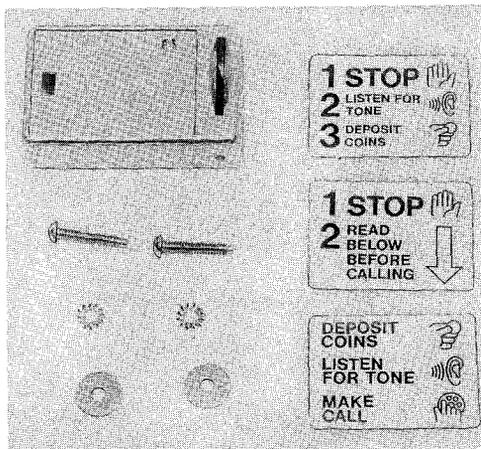

Fig. 55—D-180848 Kit of Parts (Magnetic Coin Stop)
- 5.37** A D-180848 Kit of Parts (Fig. 55) is available to install on a 70A- or 71A-type coin cover unit. (It is not designed for a panel set).